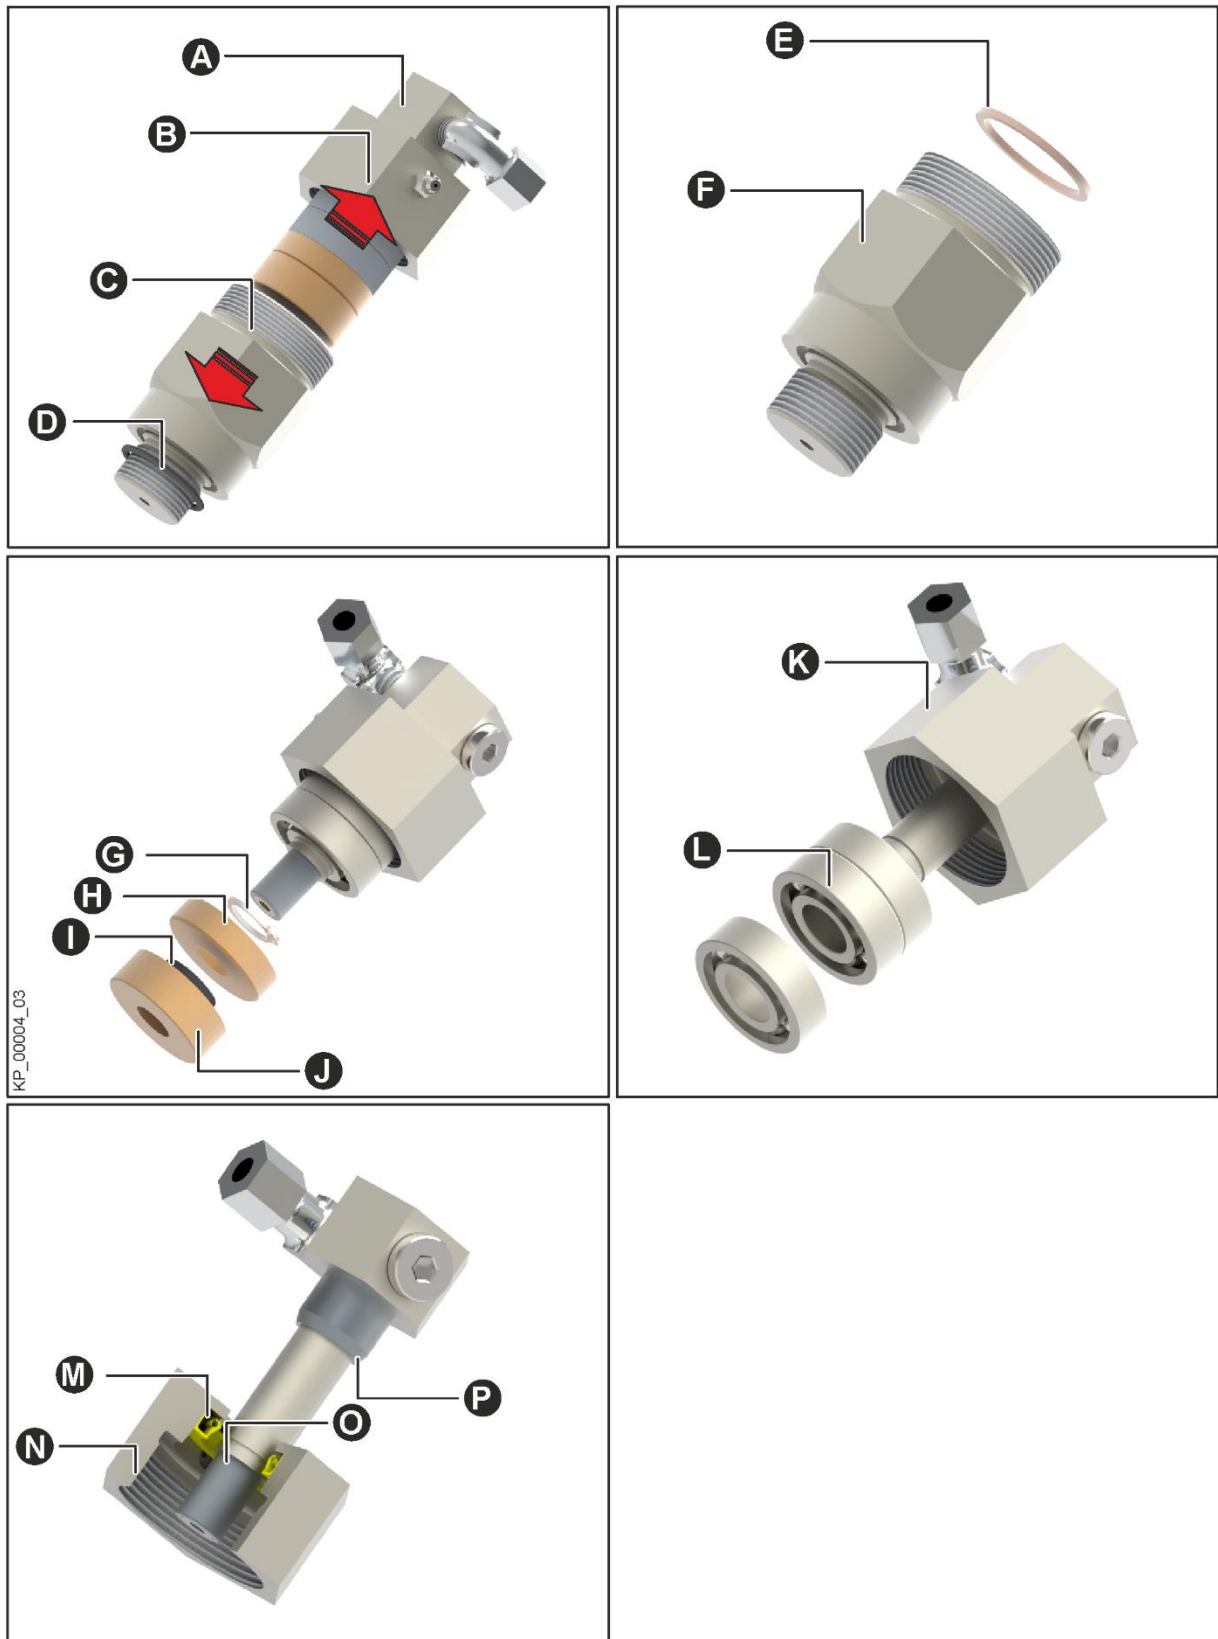

Fig. 46: Overview of the simple revolute joint
- Clamp the simple revolute joint at the two flat surfaces of the rotor (Fig. 46/C) in a vice.
- Loosen the cover (Fig. 46/B) and screw it off.
- Pull the stator (Fig. 46/A) out of the rotor.
- Remove the O-ring (Fig. 46/D) of the rotor and replace it by a new one.
- Remove the copper ring (Fig. 46/E) of the rotor (Fig. 46/F) and replace it by a new one.
- Remove the seal carrier (Fig. 46/J) with sealing ring (Fig. 46/I) from the stator.
- Replace the sealing ring (Fig. 46/I) by a new one.
- Pull off the bearing cover (Fig. 46/H) from the stator.
- Remove the locking ring (Fig. 46/G).
- Remove the bearing (Fig. 46/L) from the stator (Fig. 46/K).
- Remove the cover (Fig. 46/N) with grooved ring (Fig. 46/M).
- Replace the grooved ring (Fig. 46/M) by a new one.
- Carefully grind notches in the old wear rings (Fig. 46/P, O) until there is a fine crack.
- Coat the new wear rings (Fig. 46/P, O) at the front side with Loctite and insert them.
- Place the cover (Fig. 46/M) on the wear ring (Fig. 46/P) again.
- Place the bearings (Fig. 46/L) on the stator (Fig. 46/K).
- Place the locking ring (Fig. 46/G) on the bearings (Fig. 46/L).
- Place the bearing cover (Fig. 46/H) on the stator.
- Place the seal carrier (Fig. 46/J) with new sealing ring (Fig. 46/I) on the stator.
- Push the rotor (Fig. 46/F) with new copper ring (Fig. 46/E) on the stator.
- Screw the rotor (Fig. 46/F) to the cover (Fig. 46/B).